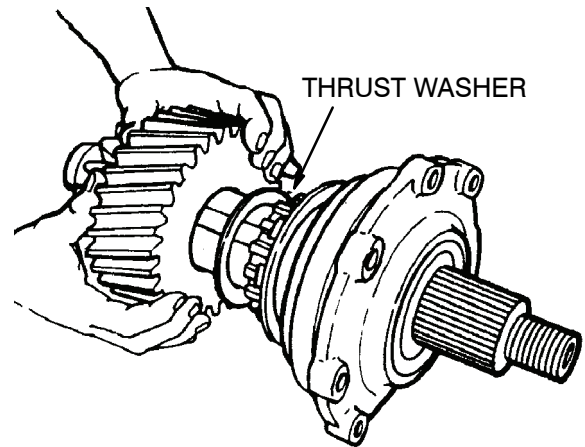

Figure 90.
- (7) Install the nut that fastens the yoke or the flange to the input shaft. Tighten the nut by hand. **DO NOT TIGHTEN THE NUT TO THE SPECIFIED TORQUE UNTIL THE BEARING CAGE AND PUMP ASSEMBLY IS INSTALLED IN THE HOUSING.**
- (8) Put the thrust washer in the pilot bore on the end of the helical drive gear. Install the helical drive gear and the thrust washer on the input shaft so that the thrust washer is toward the input bearing cage. Figure 90.